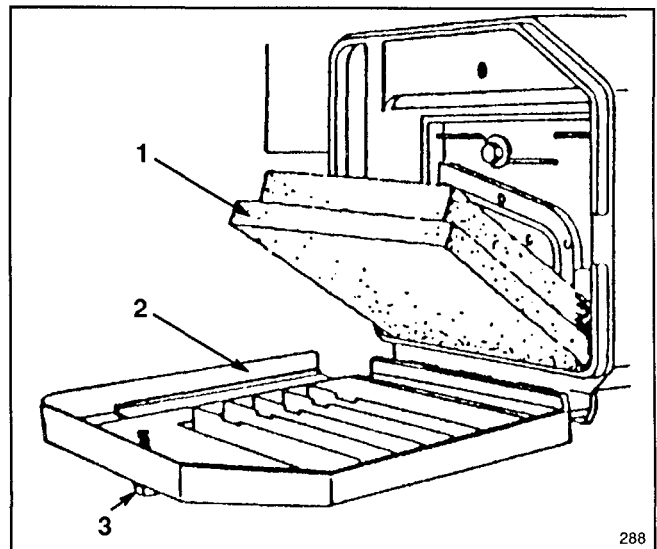

Figure 17
2. Rotate knob securing air cleaner cover to engine until cover can be removed. Clean cover thoroughly (Fig. 17).
3. If outside of foam element is dirty, remove it from air cleaner body (Fig. 17). Clean thoroughly.